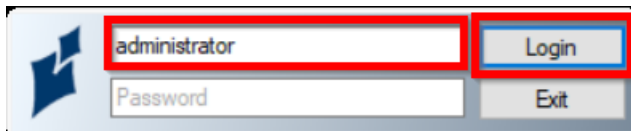

Figure 20. The username/password box in Progeny Imaging.
- A username/password box appears. Click in the “Username” box and type “administrator,” then click the “Login” button. No password is needed. Refer to Figure 20 below.